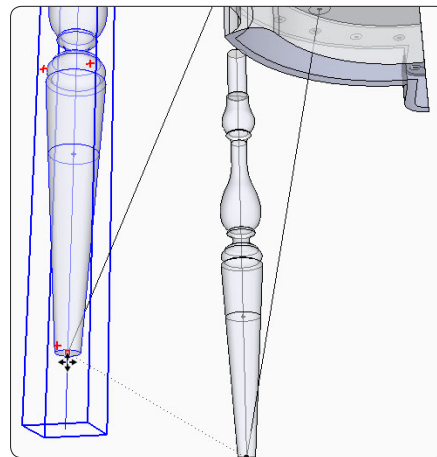

Figure 36. Connect the bottom center of the legs to the centerlines.
Step 9 Bring the leg components into view and copy them. Use the Move/Copy Tool to connect the bottom center point of each leg to the end of its respective centerline. Set the Face View to X-Ray View and use the Zoom Tool to come in close to be sure that the leg center point is actually connected to the endpoint of the centerline (Figure 36).